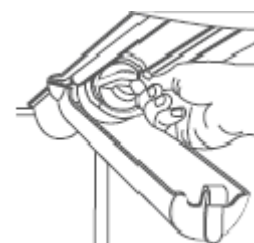

Figure 1
- (b) Remove the blue bypass cap and retain for later use (refer to figure 1).